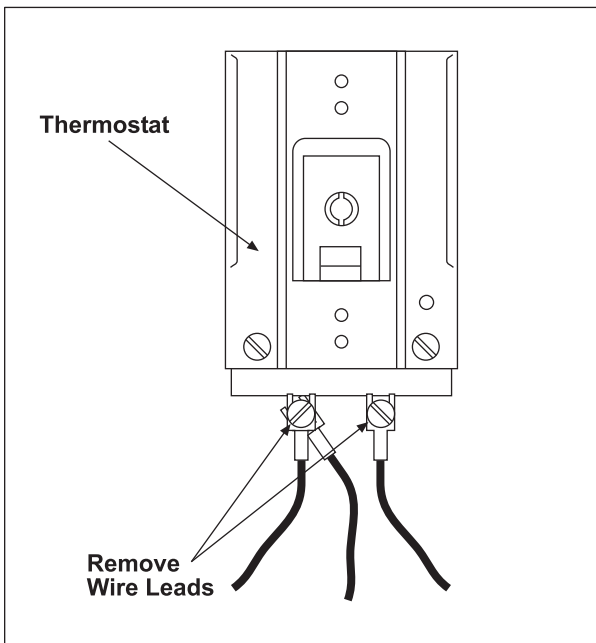

Figure 6
- Remove wire leads from the rear of the thermostat, noting all connections for reassembly (Figure 6).